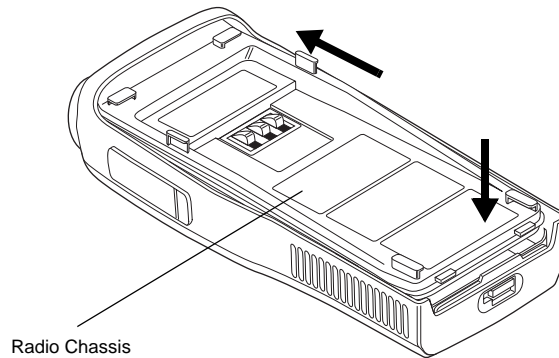

Figure 2-13. Fastening the Chassis
3. Push the chassis assembly completely into the top of the front cover (Figure 2-13) until it settles in place.